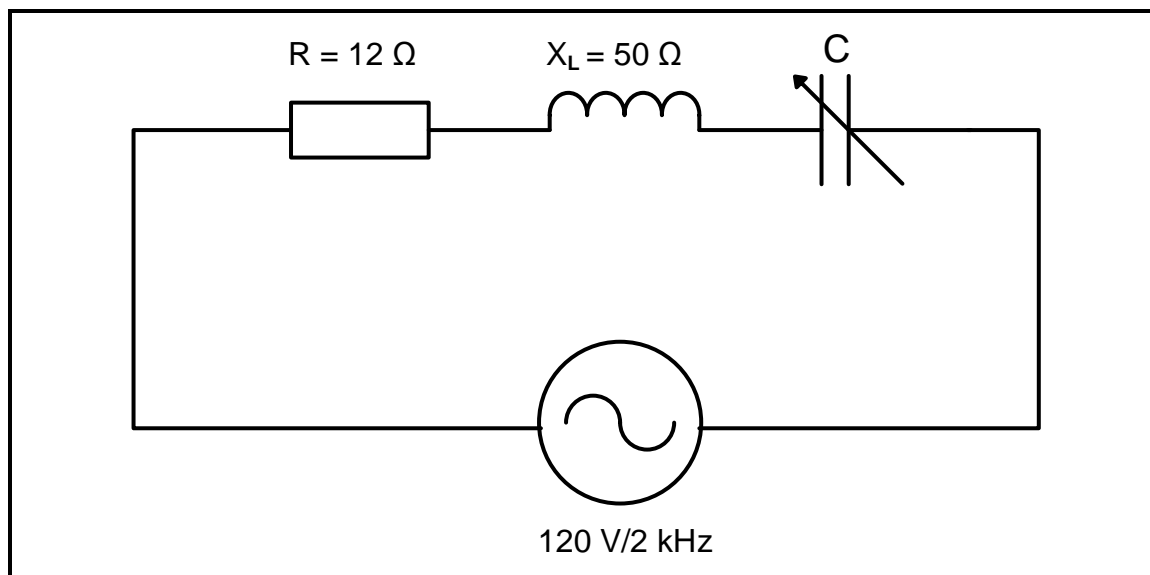

FIGURE 2.5: RLC SERIES RESONANT CIRCUIT
- 2.5 FIGURE 2.5 below shows an RLC series resonant circuit which consists of a $12\ \Omega$ resistor, an inductor with an inductive reactance of $50\ \Omega$ and a variable capacitor, all connected across a $120\text{ V}/2\text{ kHz}$ supply. Answer the questions that follow.